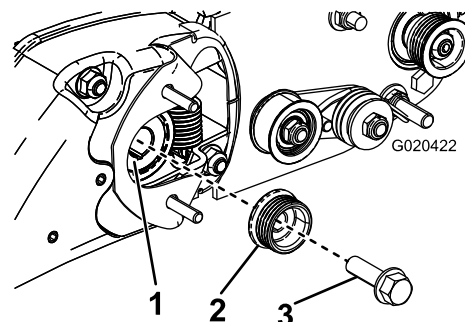

Figure 10
1. Remove the bolt securing the groomer pulley to the driveshaft and discard it (Figure 10).
3. Secure the drive pulley to the shaft with a flange-head bolt (3/8 x 2 inch) (Figure 10). Torque the bolt to 47 to 54 N·m (35 to 40 ft·lb).